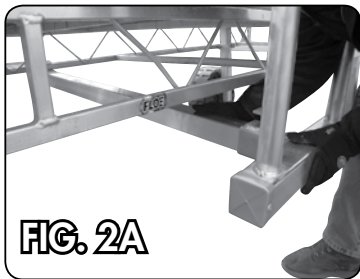

FIG. 2A
2. LOOSEN THE SET BOLT ON THE BOW STOP SLIDE LOCK AND HOOK THE STATIONARY END OF THE THE BOW STOP ONTO THE LOWER FRAME RAIL ON THE FAR SIDE OF THE DOCK AS SHOWN IN **FIGURE 2A & 2B**.